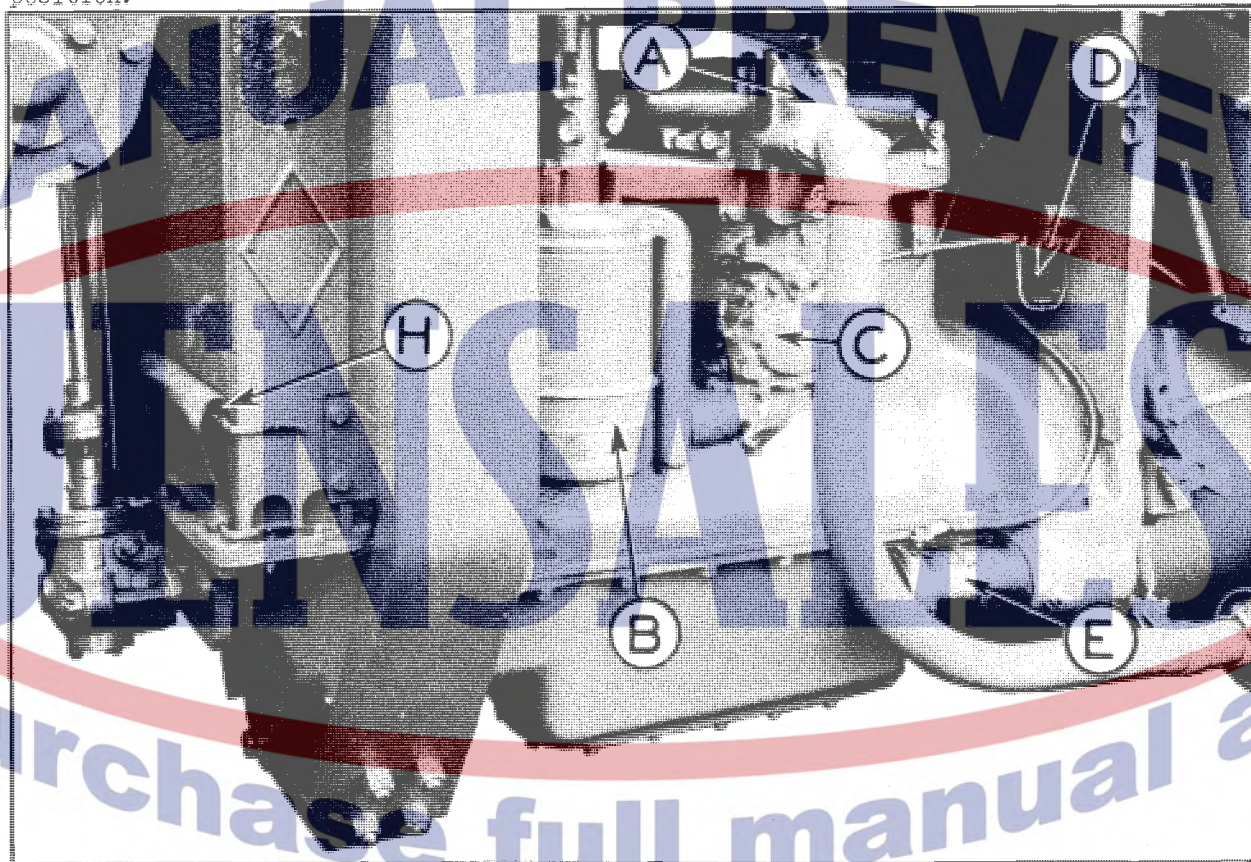

Figure 4 - LEFT SIDE OF ENGINE
Speed Patrols Serial No. 3226 and above are equipped with the manifold as illustrated in Figure 4. This exhaust manifold is designed to be used for either gasoline or low grade fuel burning engines. To burn low grade fuel, the heat control cover (A) is to be installed on the manifold so that the letter "K" which is cast on the cover is on top. When gasoline is used the cover is reversed and installed so the letter "G" is on top.